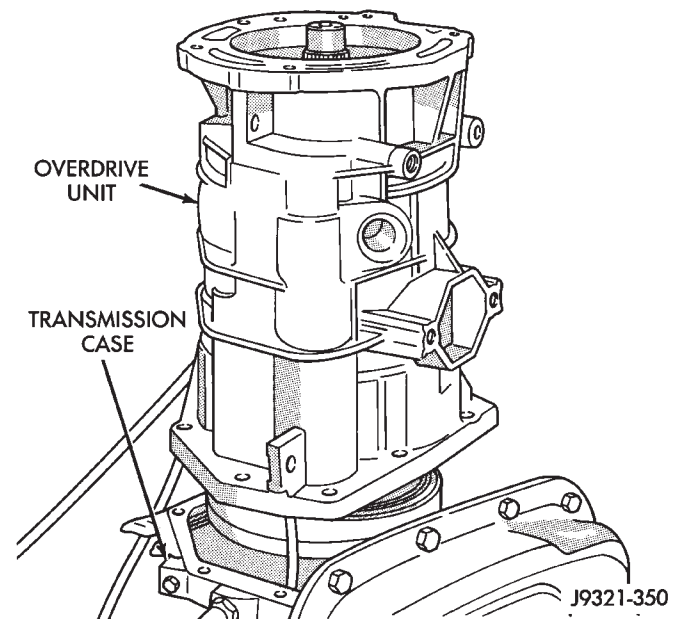

Fig. 3 Overdrive Unit Removal
- (7) Lift overdrive unit up and off transmission intermediate shaft (Fig. 3).